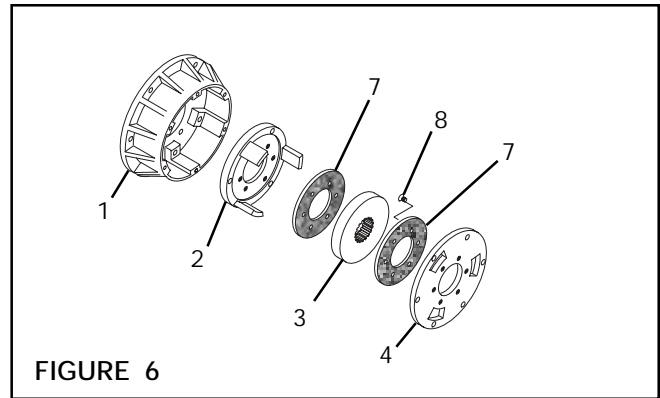

FIGURE 6
6. Slide the Pressure Plate (Item 4), Drive Disc (Item 3), and Torque Plate (Item 2) out of the Housing (Item 1) (See Figure 6).
7. Remove the twelve old Machine Screws (Item 8) securing the old Friction Facings (Item 7) to the Torque Plate (Item 2) and the Pressure Plate (Item 4) (See Figure 6).
8. Using twelve new Machine Screws (Item 8), secure the new Friction Facings (Item 7) to the Torque Plate (Item 2) and the Pressure Plate (Item 4) (See Figure 6).
12. Slide the Pressure Plate (Item 4), Drive Disc (Item 3), and Torque Plate (Item 2) into the Housing (Item 1) (See Figure 6).